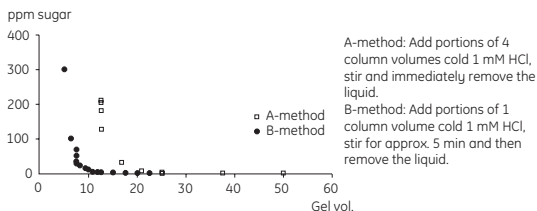

Fig 1. The content of sugar in the filtrate after washing with different medium volumes of cold 1 mM HCl.
2. CNBr-activated Sepharose 4 Fast Flow is supplied freeze-dried with sugar additives and is washed initially with 10 to 15 medium volumes of cold 1 mM HCl, see Figure 1. Use small wash portions (e.g., 1 medium volume) and let the mixture equilibrate a few minutes during each washing step. After washing, determine the exact medium volume obtained using e.g., centrifugation or PD-10 column (the medium volume may vary between experiments).